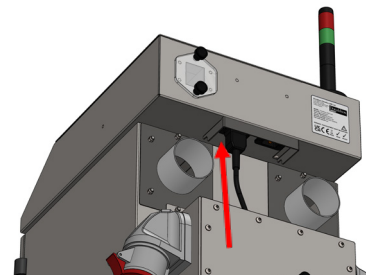
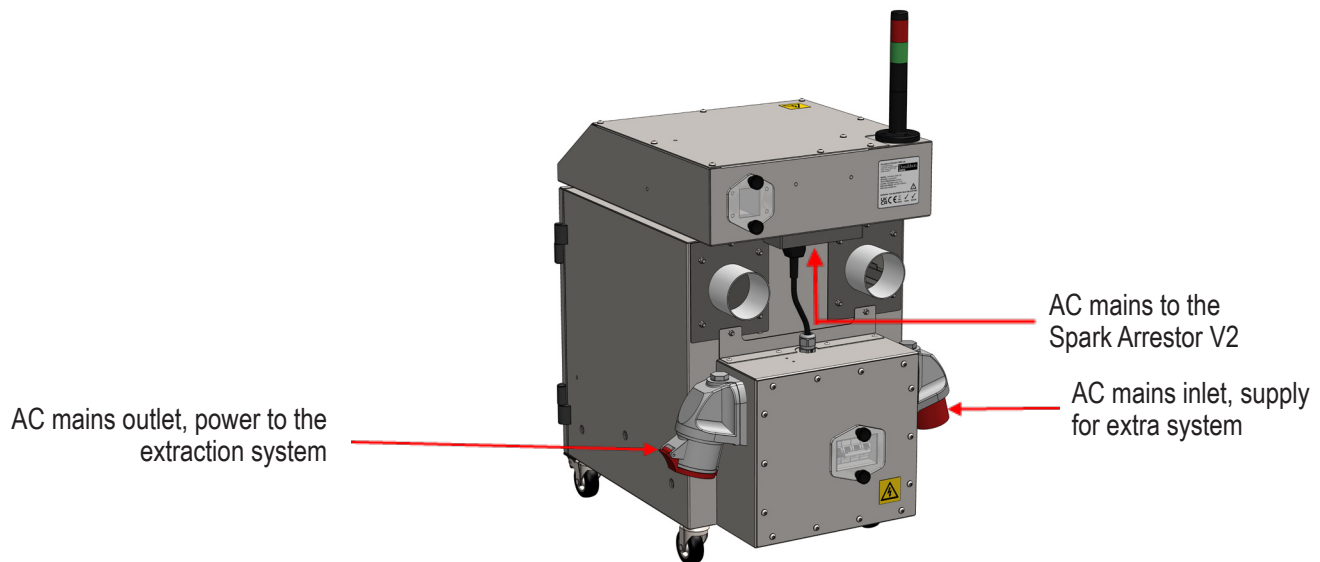

Figure 2
Figure 3
5. Connect the power cable from the module to the Spark Arrestor V2 (see figure 2), and then the power lead from the extraction system to the Spark Arrestor V2 (see figure 3).